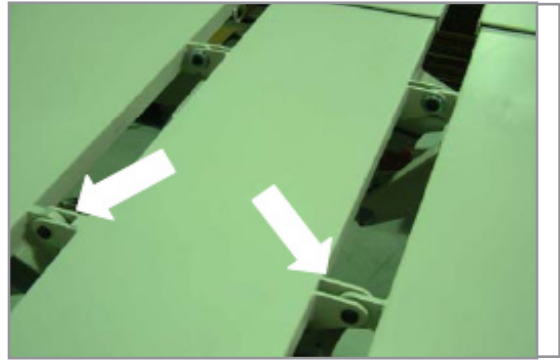

Figure 24
1. Keep pins and bolts oiled (sample indicated by arrows in Figure 24).